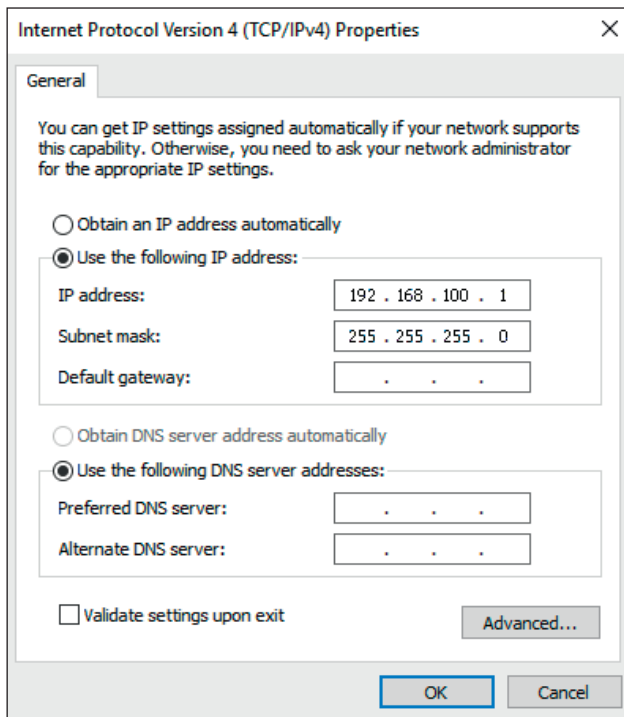

Fig. 5-8: Windows 10/11: **Internet Protocol Version 4 (TCP/IPv4) Properties** dialog
- ⇒ The dialog **Internet Protocol Version 4 (TCP/IPv4) Properties** is displayed (Fig. 5-8).